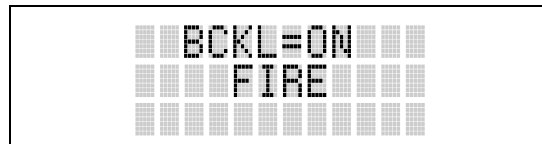

Figure 9-10: Backlight Menu Display
3. Press . The backlight menu item is activated. Line one shows the active menu item and its current parameter setting. Line two shows the currently selected system or group name (see Figure 9-10).